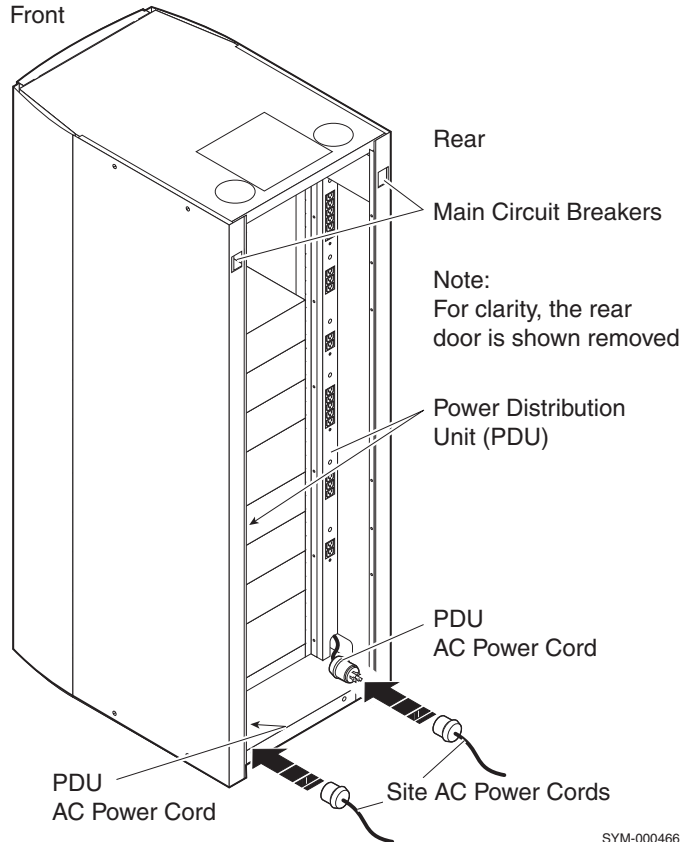

Figure B-3 AC Power Cords
6. Switch the PDU's two main AC circuit breakers (one on each power strip, shown in Figure B-3 on page B-4) OFF (down).
1. If not already done, plug each of the two 240-volt AC power cords (shown in Figure B-3) into a different branch circuit.
3. Switch the PDU's two main AC circuit breakers (shown in Figure B-3) ON (up).